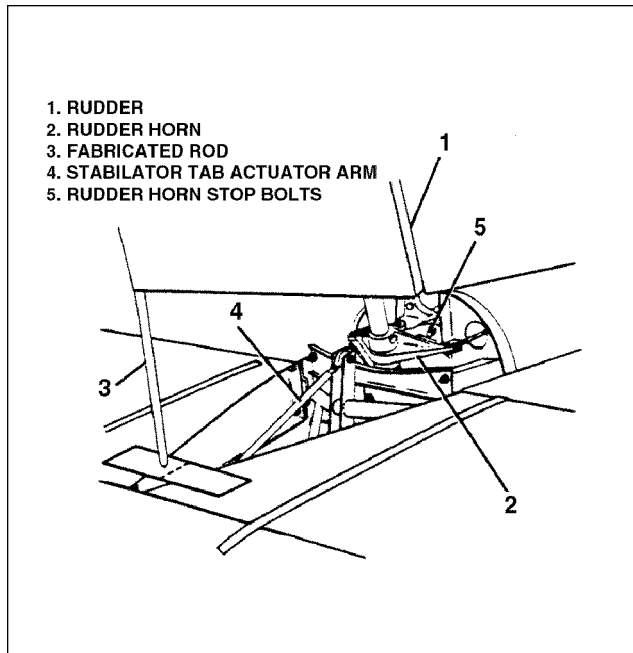

Figure 5-10. Determining Neutral Rudder Position
5. Insert a small diameter rod into the bottom of the rudder at the trailing edge, and allow its end to extend down to the stabilator trim control rod. (Refer to Figure 5-10.)
6. Apply masking tape at 90° to airplane centerline, between stabilator halves immediately beneath rod inserted on rudder. On tape, mark the airplane centerline (stabilator tab actuator arm rod). (Refer to Figure 5-10.)